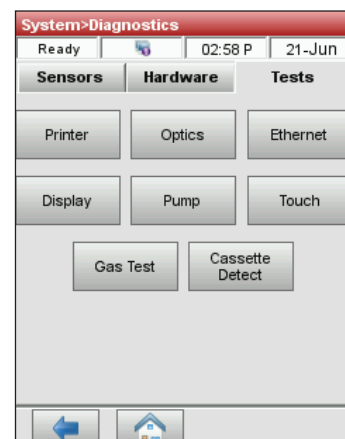

Figure 28. System Manager > Diagnostics > Tests > Pump
- Tap **Pump** (figure 28) to test the pump motor. The pump should rotate smoothly without excessive noise. This diagnostic test automatically steps through all the speeds used during normal operation (7.5–120 rpm) and then returns to the Diagnostics > Tests tab.